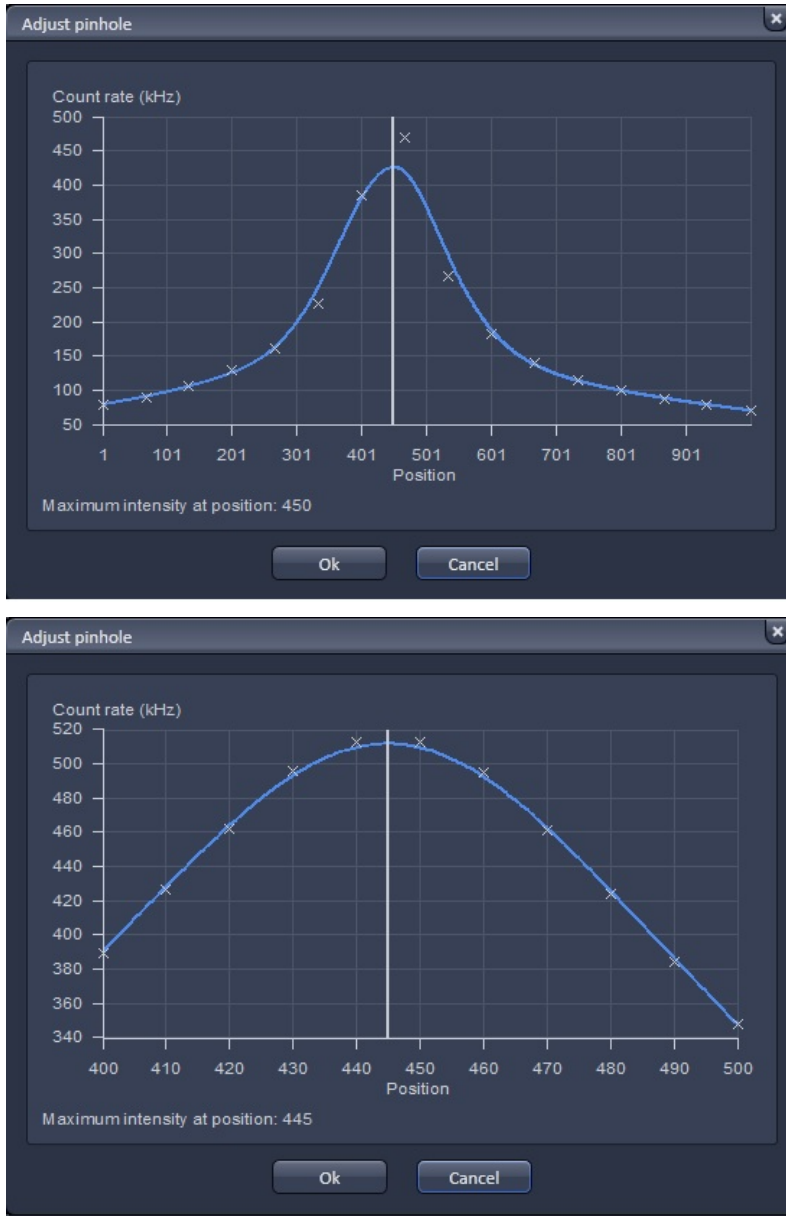

Fig. 245 Automatic Pinhole Adjustment in x coarse (left) and x fine (right)
- Click on the **X** and on **Y** auto adjust buttons to perform a coarse / fine alignment of the pinhole in x and y, respectively. In either case, the **Pinhole Adjustment** window will appear (Fig. 245). In the Count Rate/Position diagram, the crosses correspond to the measured intensity (count rate). The line corresponds to the intensity curve fitted to the data points to find the optimum pinhole position. The pinhole will be automatically positioned to the maximum. If a maximum will not be found in the fine alignment, the system will show a warning message. In this case, a coarse alignment must be performed before the fine adjustment.
- Open the **Pinhole Adjust** window (Fig. 245).